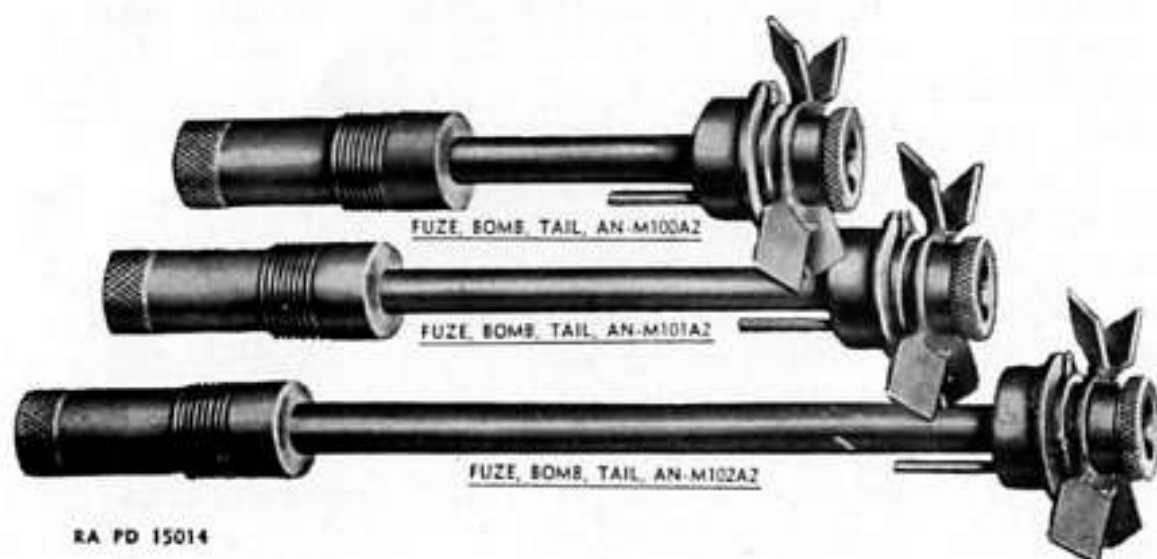

Figure 46. Tail fuze series.
33. IDENTIFICATION. Fuzes are identified by the information marked on the containers and stamped on the fuze body. They may be identified by inspection as herein described. Detailed differences are as follows: Rapid arming fuzes are distinguished from slow arming types by the rod which extends from the arming head forward along the arming stem for approximately 1.5 inches. This rod is present on the slower arming types and absent from the rapid type. (See fig. 45.) Fuzes of one series (that is, fuzes with the same mechanism and action, but designed for bombs of different sizes) are distinguished among themselves by the length of the arming stem. (See fig. 46.) Special-purpose fuzes such as hydrostatic, have a distinctive appearance and method of operation. They are described in the following sections.